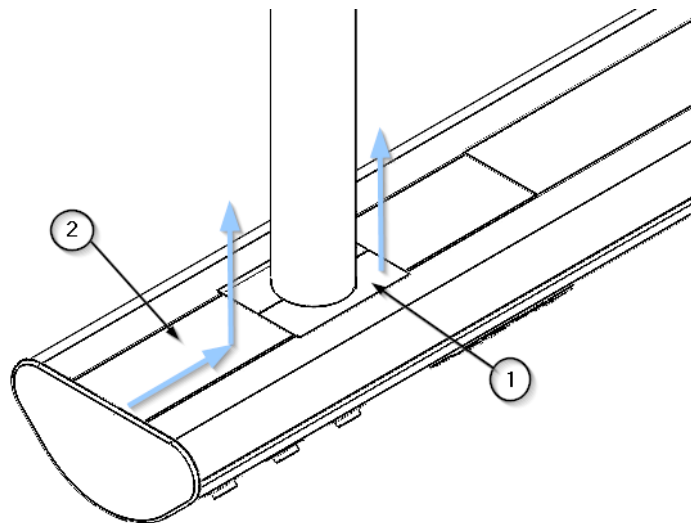

Fig. 2 Removal of main body covers
- Using a hexagonal tool, remove the 8 M4 x 6 screws (3) securing the 5 side flanges (2) of the side wall (1), as shown in figure 2.
- Carefully remove the side panel (1) and place it in a safe place.
- First attach the end cap (1) by supporting the side tabs (2) in the threaded slots of the main body and secure it with the 8 M4 x 6 screws (3).
- Check that the side wall (1) is properly fixed.